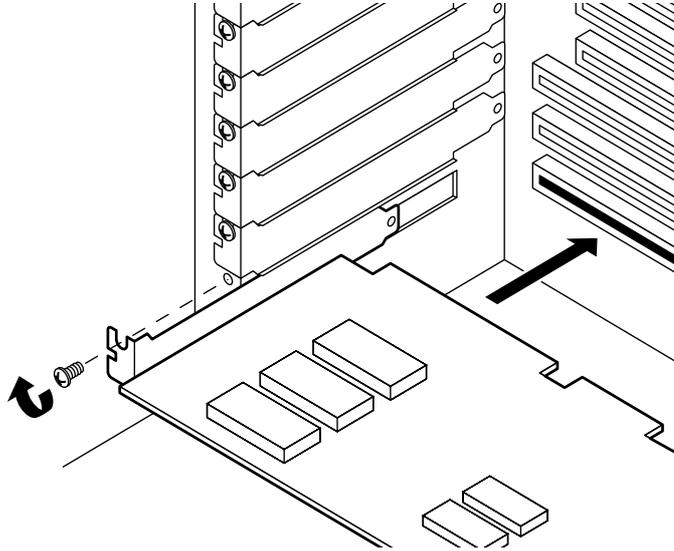
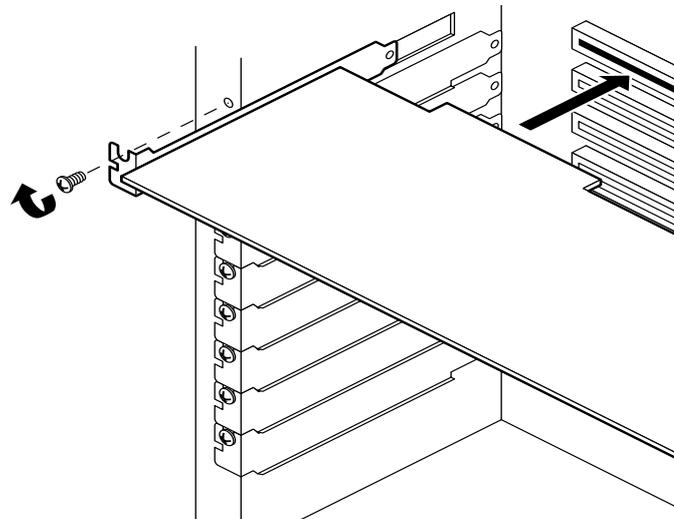

Figure 7-5 Installing an ISA Add-in Board, Component-side Up
Figure 7-6 Installing a PCI Add-in Board, Component-side Down
5. Hold the board by its top edge or upper corners, and firmly press it into an expansion slot on the system board (Figure 7-5 or Figure 7-6).